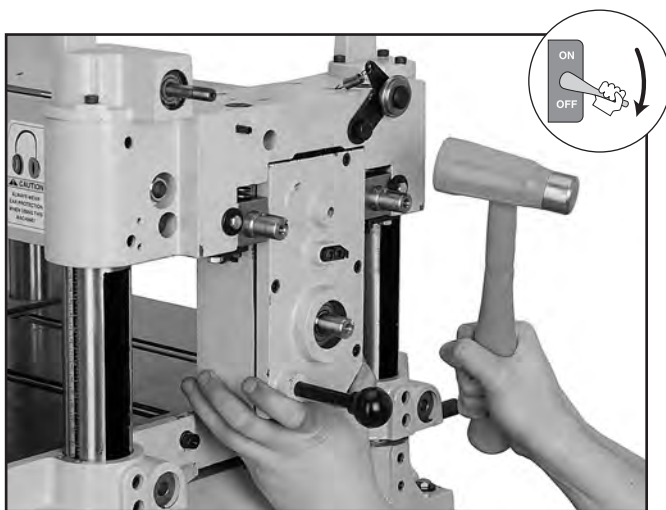

Figure 13. Seating cutterhead-gearbox assembly.
8. Install the cutterhead-gearbox assembly into the planer. Seat the cutterhead shaft bearing by tapping on the gearbox with a rubber or wooden mallet, as shown in **Figure 13**.